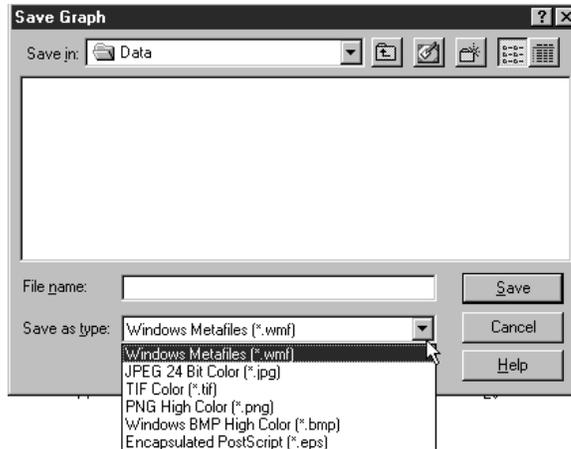

Figure 5-1. Save Graph Dialog Box
2. Choose FILE... SAVE GRAPH... from the Menu bar (or press F3) to display the Save Graph dialog box (see Figure 5-1) or right click on the graph to display the pop-up menu and click Save Graph.